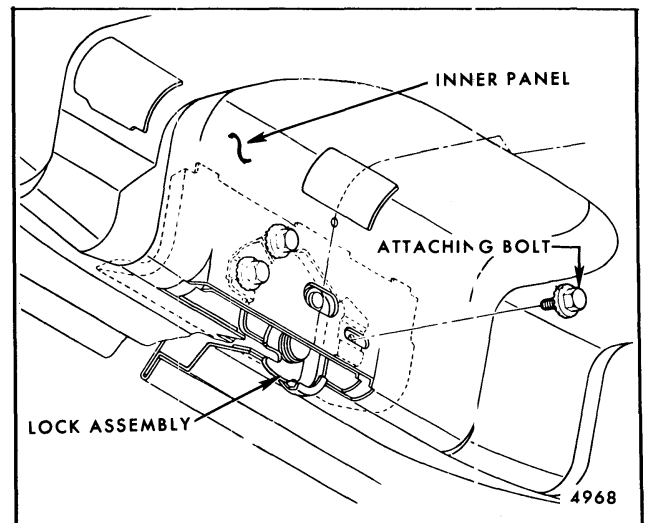

Fig. 7-12-Typical Rear Compartment Lock Mounted in Lid
2. Remove attaching bolts securing lock (Figs. 7-12 and 7-13) to rear compartment lid or rear end panel.